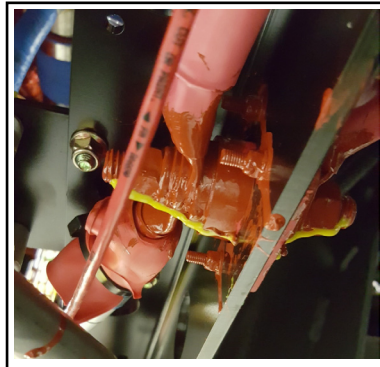

Figure 16 - Application of **DOLPH ER-41 & EB-41** Corrosion Preventative Products
- 2.21. Application procedure for DOLPH ER-41 and EB-41 (N86800 & N86801 respectively) corrosion preventative products (see Figure 16).